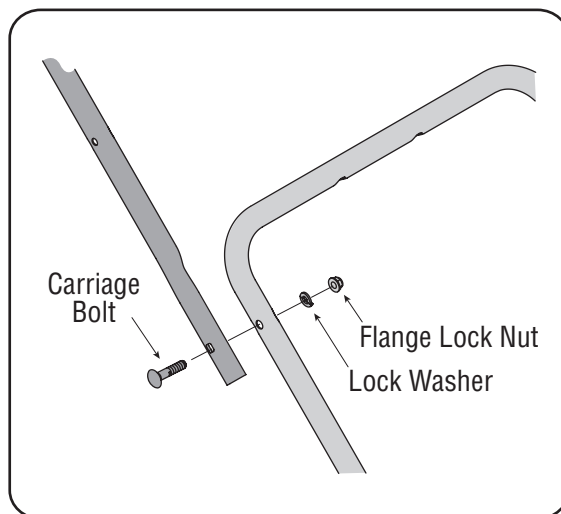

Figure 3-3
2. Secure the upper handle to the lower handle using the carriage bolts, lock washers, and lock nuts from group 4 of the hardware pack. See Figure 3-3.